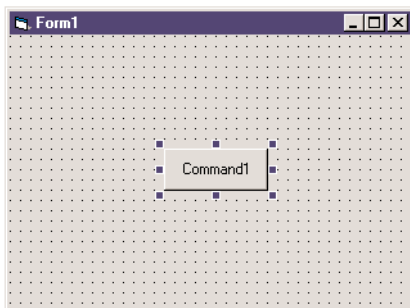

Figure 1.7
- Double-click on the icon for the *Command Button* in the *Toolbox* window. Your form should now look like the one in Figure 1.7.